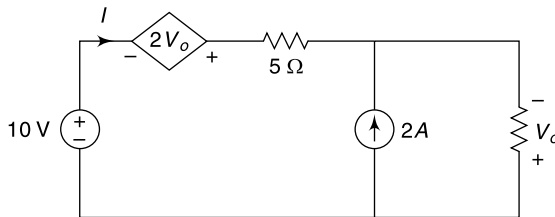

Fig. 4.170 Circuit of Ex. 4.139
4.139 Determine the current I in the network of Fig. 4.170 using superposition theorem.
Let us first assume the 10 V source only removing 2 A source as shown in Fig. 4.170(a).